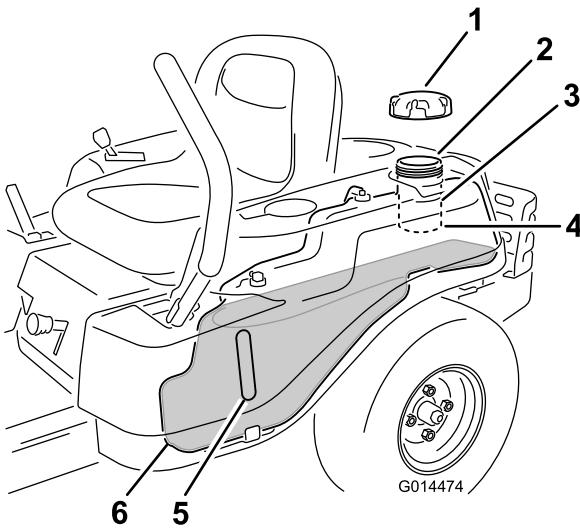

Figure 12
**Note:** You can use the fuel window to verify the presence of gasoline before filling the tank (Figure 12).
- Slowly add regular, unleaded gasoline until the fuel reaches the base of the filler neck (Figure 12).